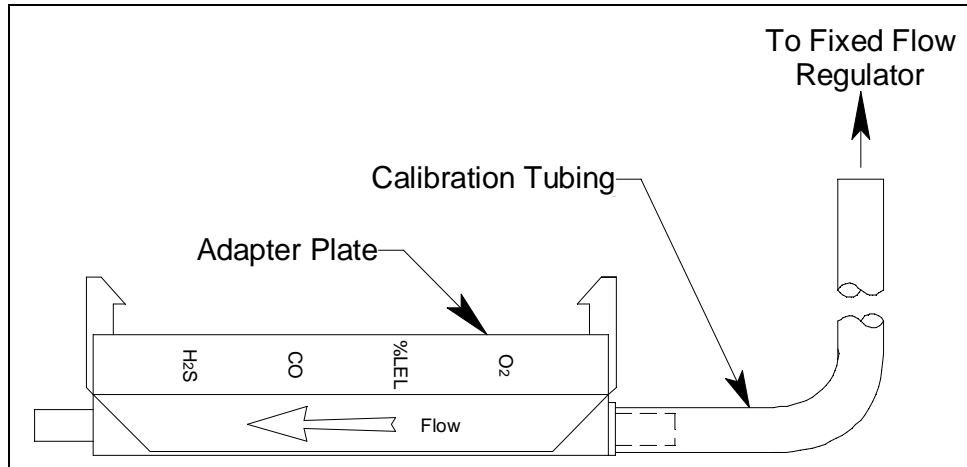

Figure 11: Calibration Kit Assembly
- Use the sample tubing to connect the calibration adapter plate to the regulator. Attach the tubing to the adapter plate on the inlet side as shown below in Figure 11.